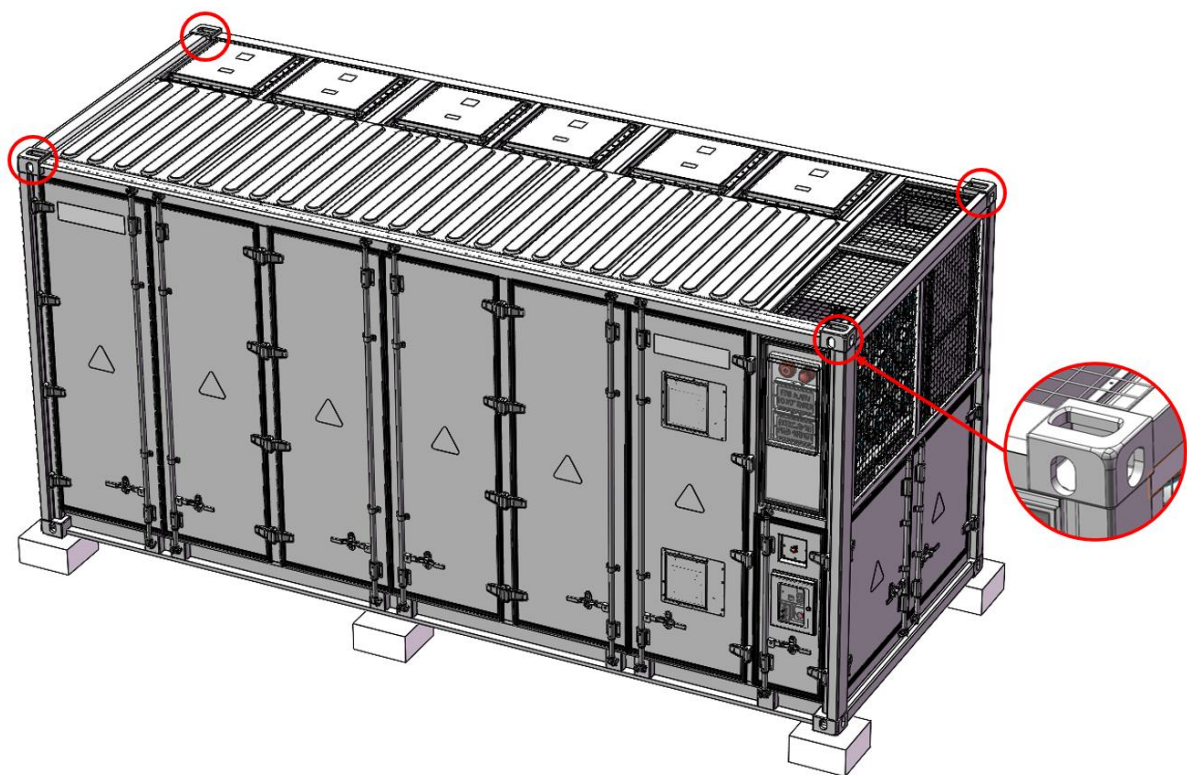

Figure 17. Location of SolBank3.0 lifting points
- ✓ **Step 1:** Attach lifting harness and equipment to the 4 lifting points identified in Figure 17 per the task-specific lifting plan. This lifting plan is to be developed by qualified personnel in collaboration with site safety personnel and crane operators.